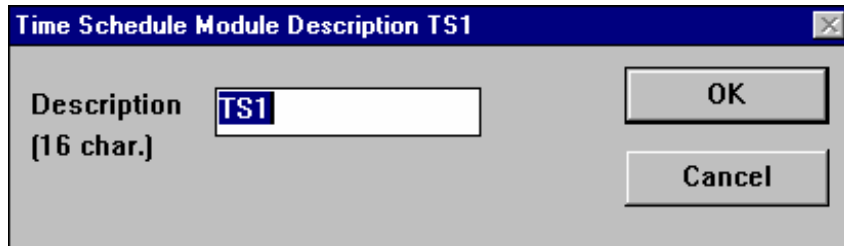

Figure 14-2: Time Schedule Description Dialog Box
3. Right-click the selected row and select Data from the pop-up menu that appears. A Time Schedule Module Description TS1 dialog box appears (Figure 14-2).